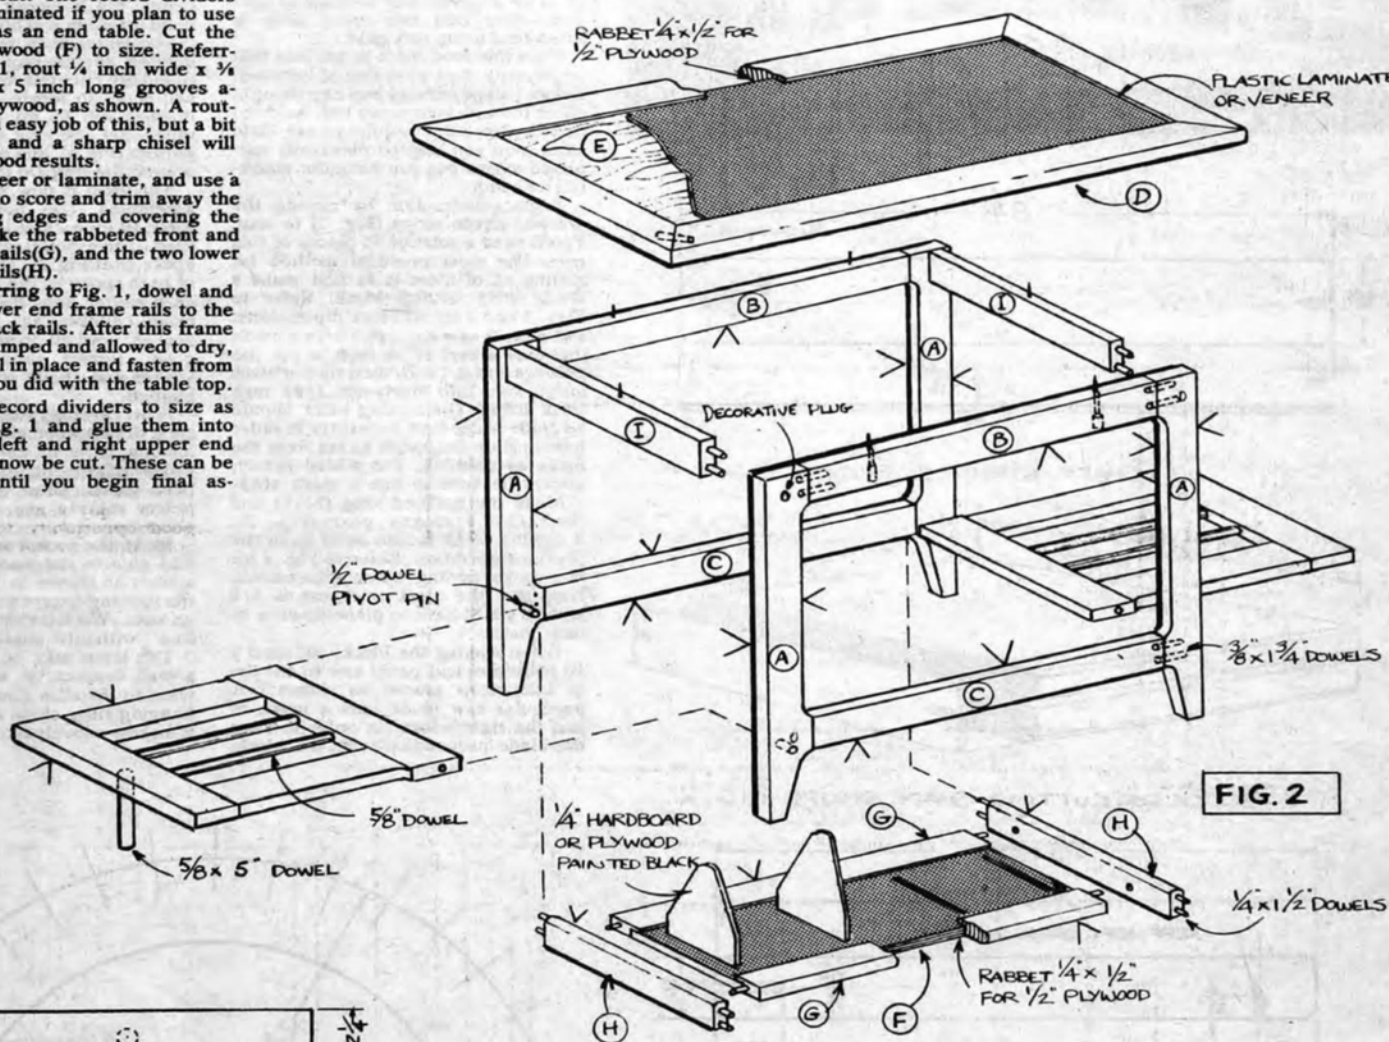

FIG. 2
Begin this interesting project by making the four legs (A), the front and back top rails (B), and the front and back bottom rails (C). Referring to Fig. 2, make the table front frame by doweling and gluing the two front legs to the top and bottom front rails as shown.
The folding stereo speaker wings can now be built...unless the piece is to be used as an end table. Refer to Figs. 2 and 3 for all details and dimensions. Use ¼ inch by 1½ inch dowels to strengthen all joints.
Before assembly, apply a generous radius (see Detail B) to all edges marked with a check (✓) in Fig. 2. This radius helps to give the table its clean lines so use care here.
After careful sanding, the table is ready for assembly. Referring to Fig. 2, drill dowel holes in the front and back frames and rails H and I. Glue the four ½ inch pivot pins into the frames but do not glue the ends that insert into speaker wings. The wings must be free to pivot so that, if desired, they can be folded up and out
The top can be joined by centering it on upper rails and fastening from underneath with six 2 inch x #8 rh wood screws as per Fig. 2. The bottom of the rails must be counterbored with a ¼ inch drill.